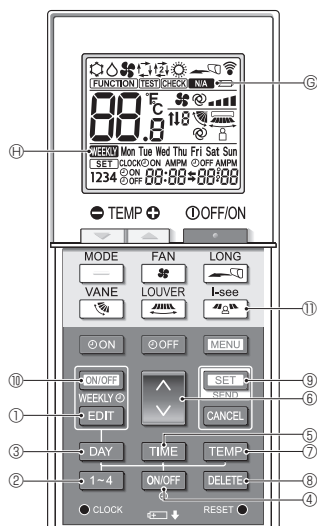
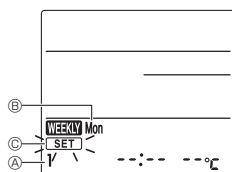

Fig. 4-3
Fig. 4-4
**<Switching to the editing mode>** (Fig. 4-3, Fig. 4-4)
- **SET** ⑨ blinks.
Press the **1-4** button ②. (Fig. 4-3, Fig. 4-4)
- Each time the **1-4** button ② is pressed, the pattern number ④ changes in the following order: 1 → 2 → 3 → 4.
Press the **DAY** button ③. (Fig. 4-3, Fig. 4-4)
- Each time the **DAY** button ③ is pressed, the day of the week ⑤ changes in the following order: Mon → Tue → Wed → Thu → Fri → Sat → Sun → All days.
1. Press the **ON/OFF** button ④. (Fig. 4-3, Fig. 4-5 ⑩)
- Each time the **ON/OFF** button ④ is pressed, the setting switches between **ON** and **OFF**.
2. Press the **TIME** button ⑤. (Fig. 4-3, Fig. 4-6)
- Press the **↓** button ⑥ to set the operation time.
3. Press the **TEMP** button ⑦. (Fig. 4-3, Fig. 4-7, Fig. 4-8)
- Press the **↓** button ⑥ to set the temperature.
- When the **AUTO** (dual set point) mode is enabled, press the **TEMP** button ⑦ to switch between the upper limit ⑥ and the lower limit ⑥.
**<Deleting the settings>** (Fig. 4-3)
**<Transmitting the settings>** (Fig. 4-3)
<Enabling the weekly timer> (Fig. 4-3)
4.7. i-See sensor (Fig. 4-3)